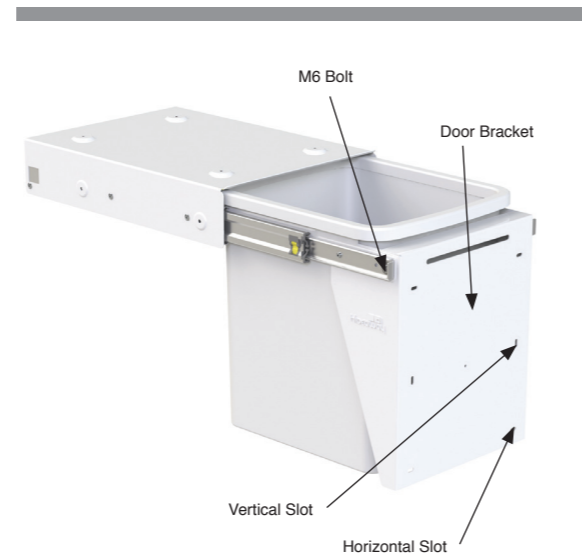

FIG 2 - Door Pull Model
The door bracket is partially assembled in this model. It should be assembled using the 2 x M6 nuts and bolts provided. Refer to Fig 2.
Step 5 – Mounting and Adjusting the Door Panel (Door Pull Models Only) Refer FIG 2